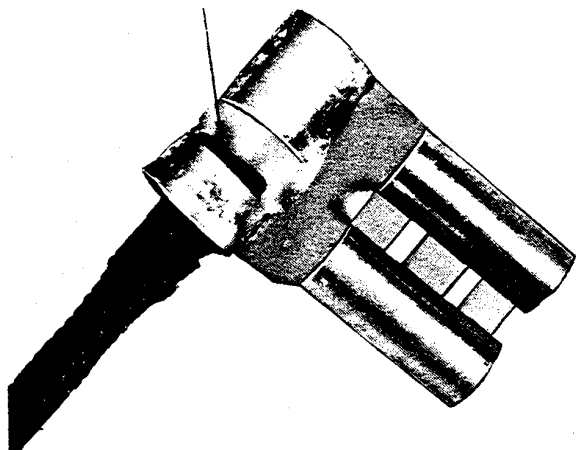

Figure 5
4. Apply 50/50 or 60/40 solder of the rosin core type to the heated crimp area, feeding the solder in at the open end of the crimp. Stop when molten solder appears in the area between the wire crimp and the insulation crimp. Do not use so much solder that it wicks into the wire within the insulation crimp. A properly soldered flag terminal should appear as shown in figure 5.